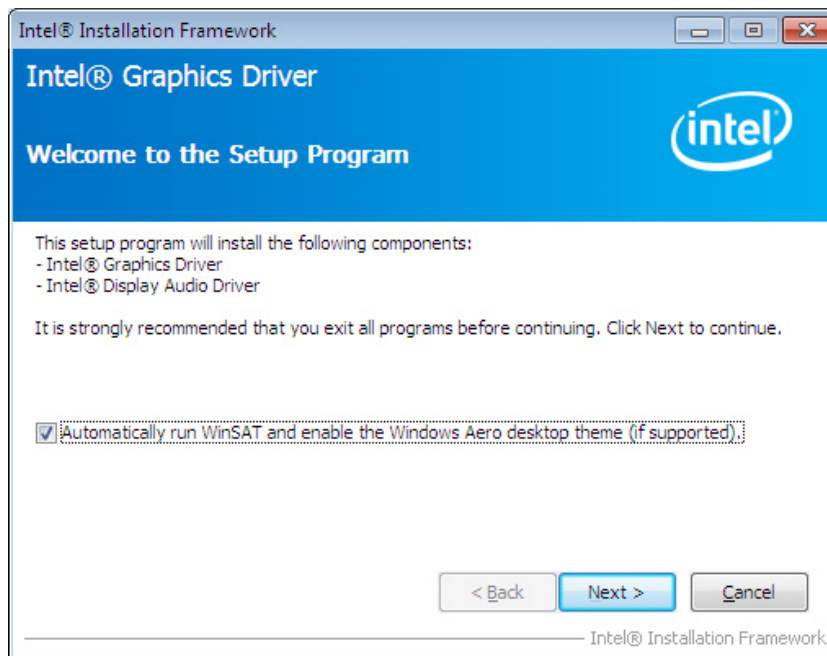

Figure 6-8: Graphics Driver Welcome Screen
Step 7: The **Welcome Screen** in **Figure 6-8** appears. Click **Next** to continue.